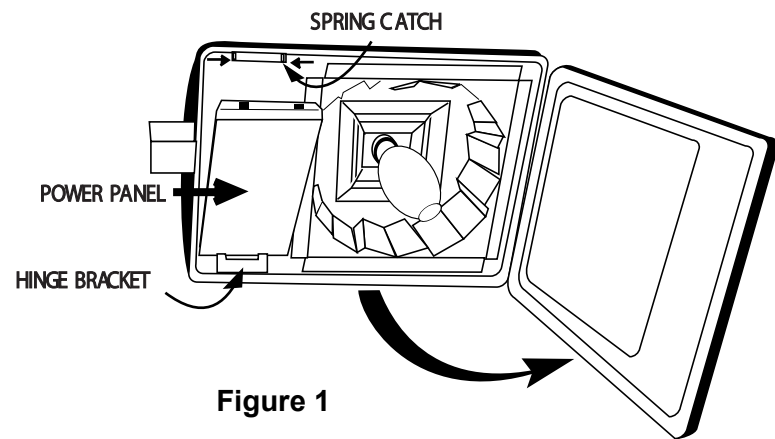

Figure 1
- Compress power panel spring catch and allow power panel to swing down. See Figures 1 and 2.
- Install new power panel by hanging slotted end over hinge bracket. See Figure 1.